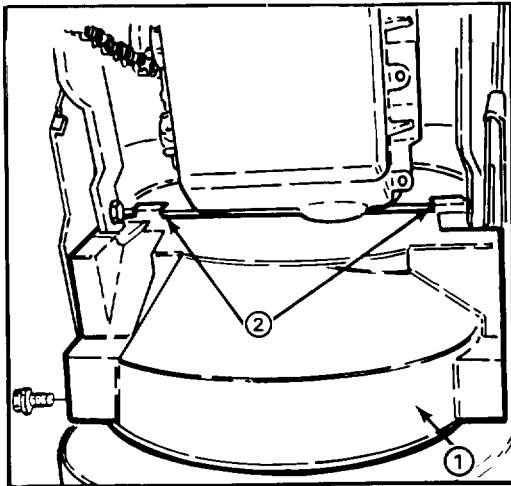

Figure 2
7. Mount lower belt cover to underside of auger housing and engine frame with (2) 1/4-20×1/2" lg. flange head capscrews (Fig. 2). Make sure belt cover mounting tabs are positioned to rear of engine frame member.